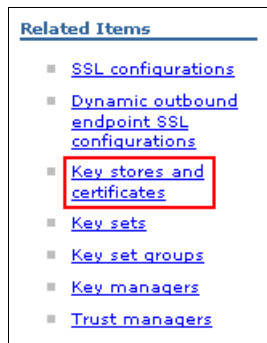

Figure A-98 Selecting Key Stores and certificates
3. Under Related Items, click **Key stores and certificates** (Figure A-98).